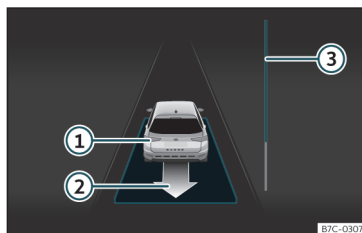

Fig. 182 On the instrument panel display: exit a parallel parking space.
The progress bar»» **Fig. 182** ③ indicates the distance to cover»» page 257.